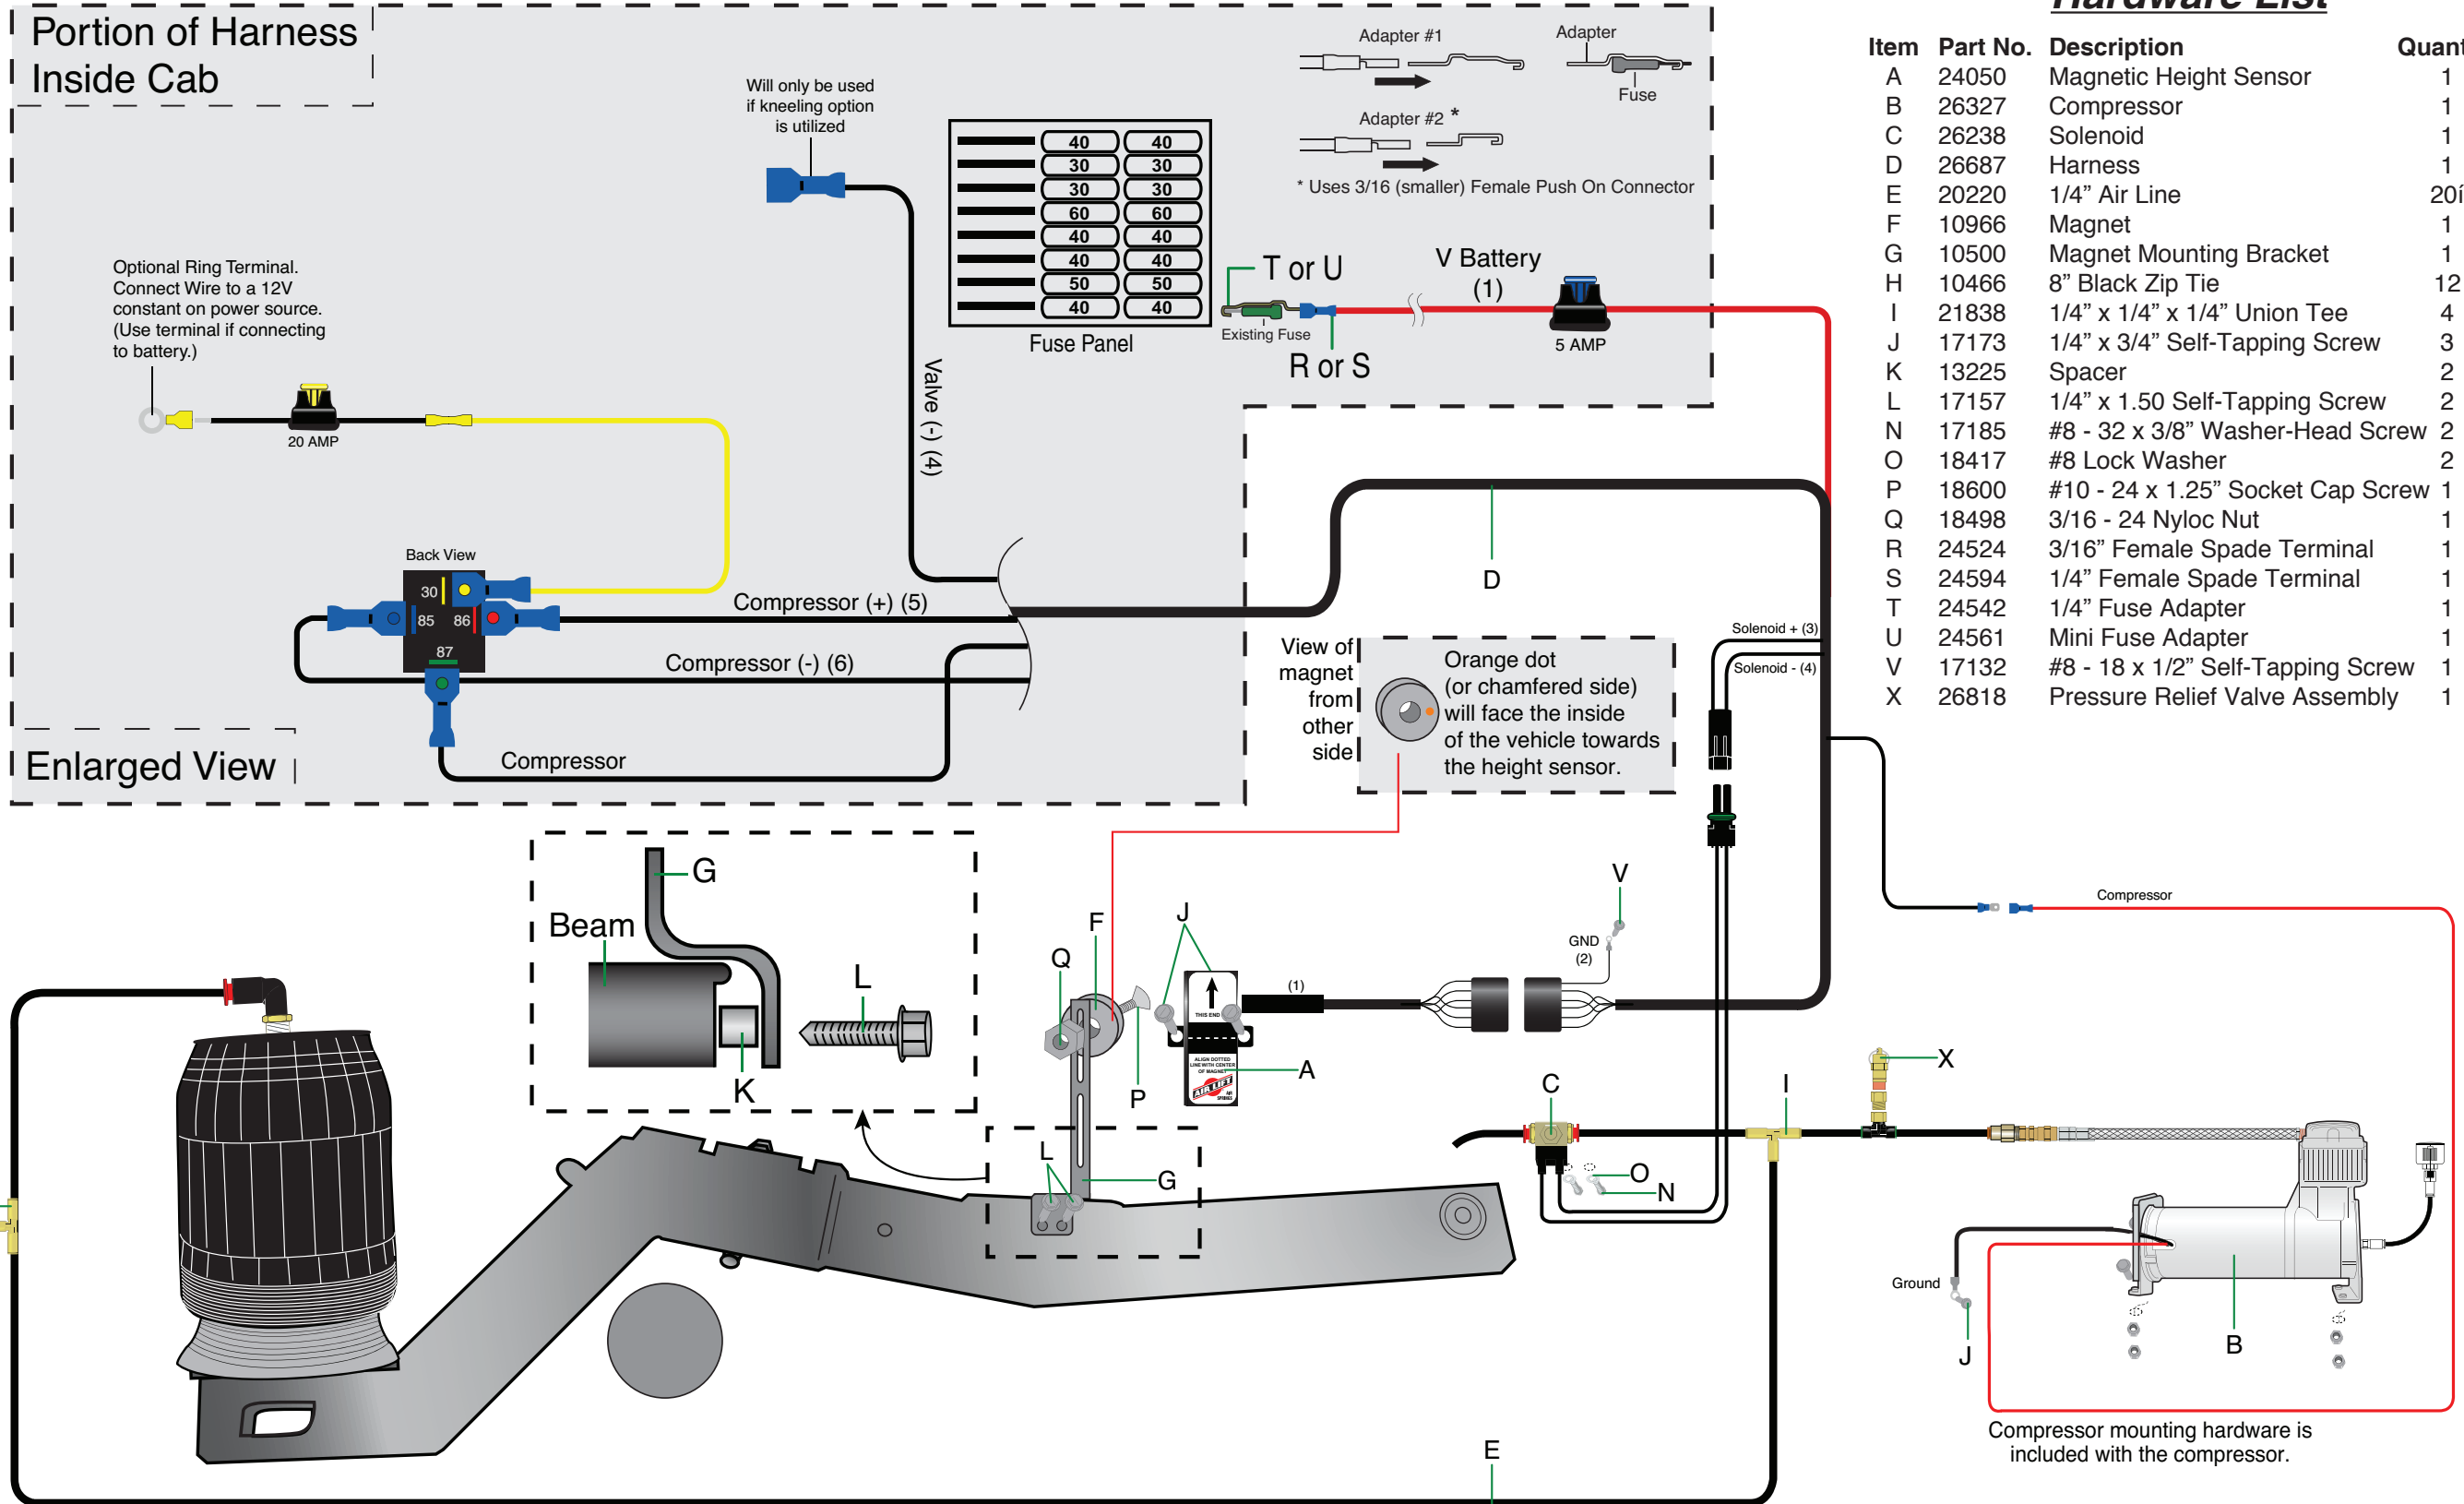

Figure 4
7. Using a butt connector, attach the 12 gauge wire from the terminal 30 on the back of the relay to one end of the 30 amp fuse holder (Figure 4).